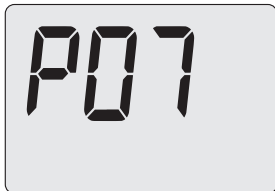

Figure 5.32
- Scroll through the various parameters using 13 or 14 until the LCD display shows the code **P07**, indicating entry into “parameter P07” (Figure 5.32).
- Press 13 or 14 (Figure 5.30) to confirm the value entered and return to the list of parameters Figure 5.32.